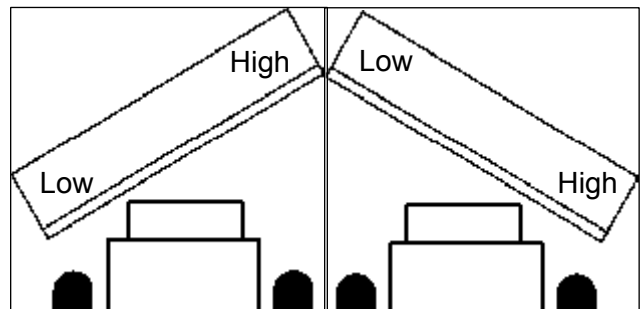

figure 4
- figure 4, turn the adjustment screw out. (figure 3, B)
- figure 1, turn leveling screws out. (figure 4, A)
- figure 2, turn leveling screws in. (figure 4, A)
- figure 4, loosen hardware that attaches the swing assembly to the brush head assembly; lower the right-hand side of the brush head until both sides are an equal distance above the ground. Tighten the hardware.